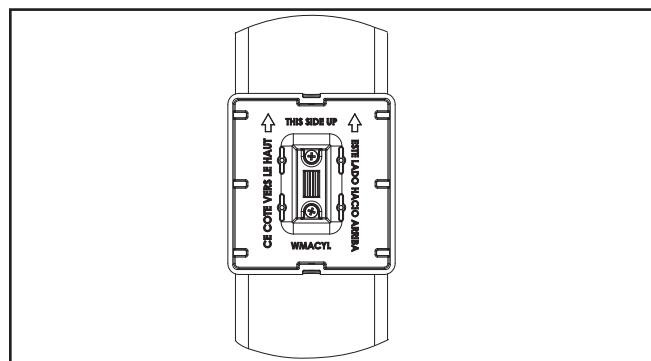

Figure 4.
5. Make sure orientation of the cylinder is correct (see figure 4).